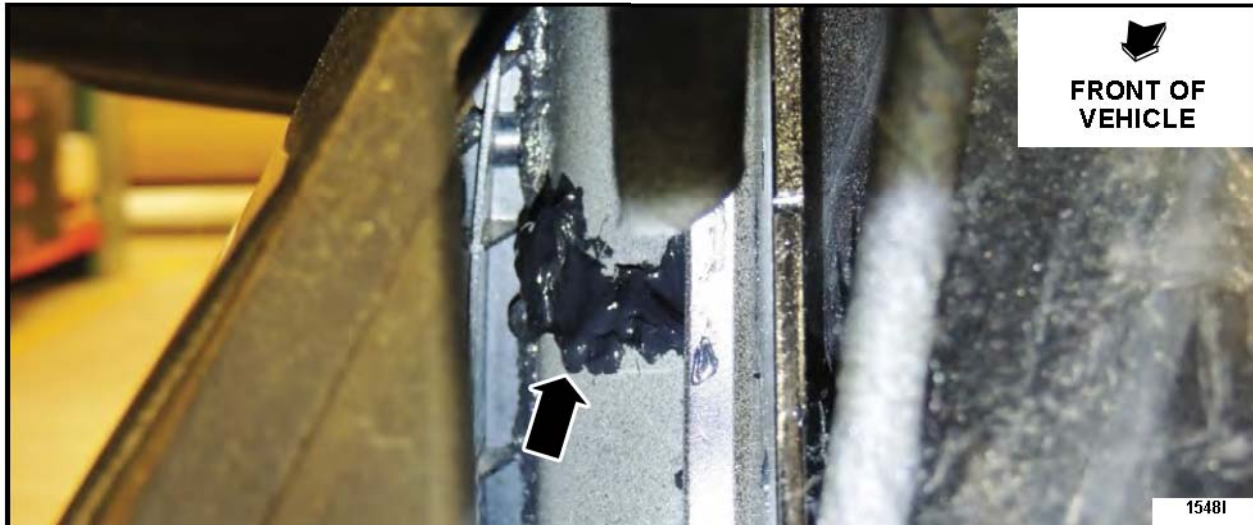

FIGURE 12
- Carefully inspect the bead of seam sealer to ensure it completely fills the gap in the sheet metal panels. Apply additional seam sealer if required to ensure a leak free joint is attained. See Figure 12.